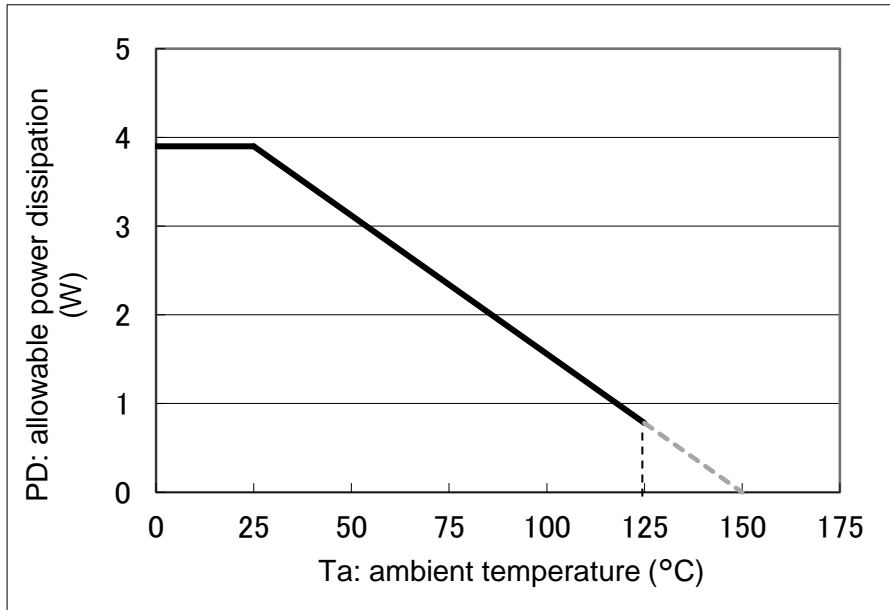

Figure 23. P-VQFN28-0606-0.65-002 PD-Ta curve (for reference)
- Figure 23 shows a PD-Ta curve for the TB9120AFTG package.
- Example 4: Given the conditions in Figure 23 and Ta = 75°C, equations (1), (7), and (8) yield the following allowable power dissipation, PD: